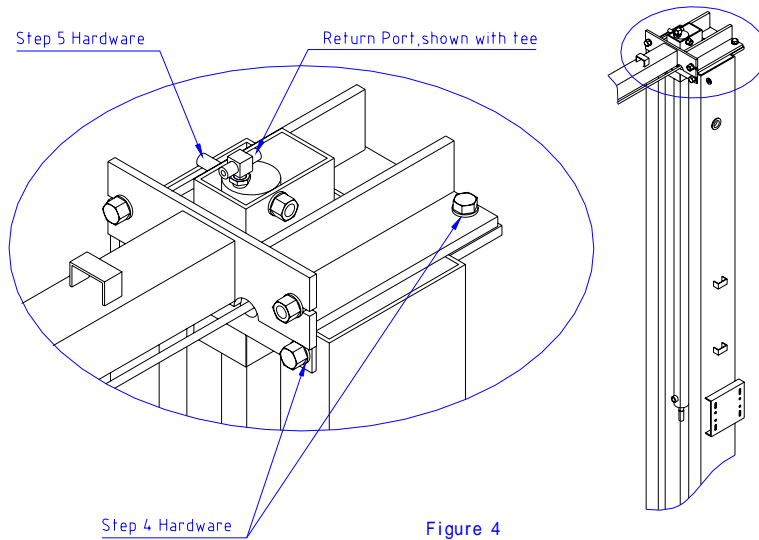

Figure 4
4. **Attach the cylinder mount or uprights. Attach the cylinder mounts or uprights to the legs using four 1/2" X 1-3/4" bolts, washers and nuts as shown in figure 4.**
- D. Install the cylinders to the uprights or cylinder mounts with **1/2" x 4-1/2" Grade 8 bolts, cylinder bushings (spacers), washers, and nyloc nuts, figure 4**. The port near the rod end of the cylinders should be positioned pointing to the leg's open side. High Rise cylinders must be attached to the alternate hole near the top of the upright.